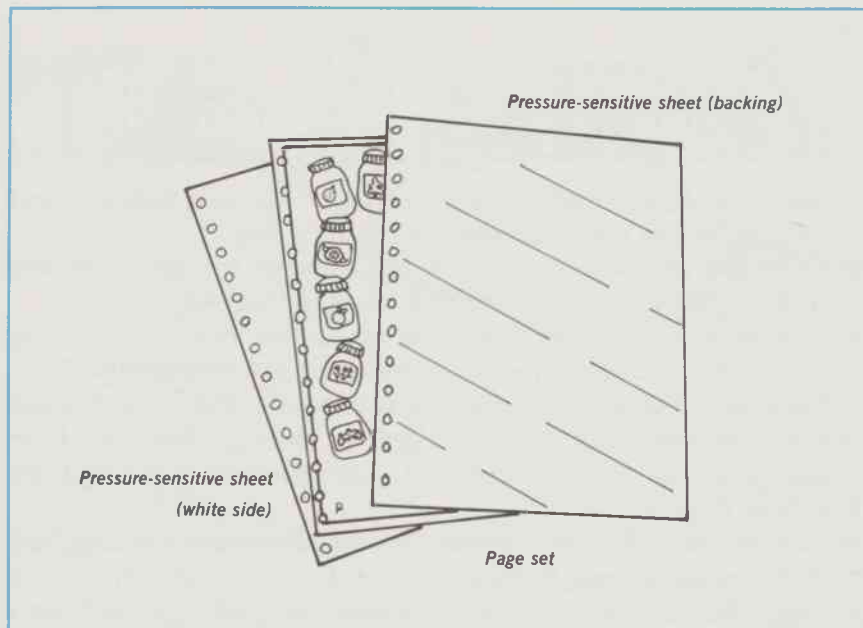

Figure 10.
- b. Place one pressure-sensitive sheet on top of the page set. Make sure the holes on the pressure-sensitive paper are on the left side and the backing (the printed) side of the pressure-sensitive paper is facing up (Figure 10).